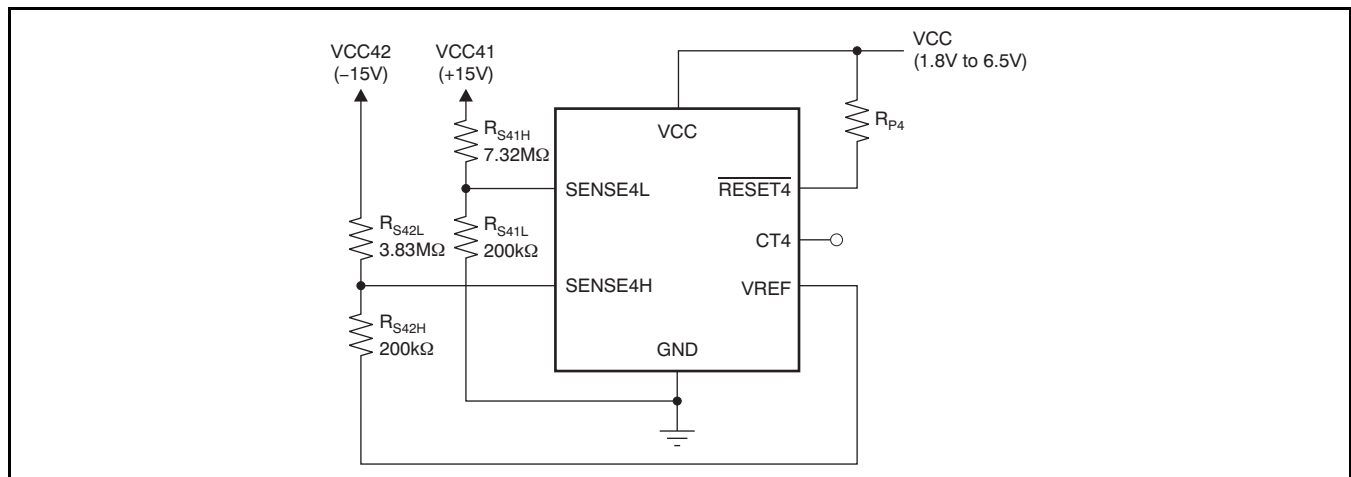

Figure 31. SVS4: Negative Voltage Sensing
voltage lower than 0.4V. Figure 31 shows this usage in an application circuit. SVS-4 monitors the positive and negative voltage power rail (for example, +15V and –15V supply to an op amp) and the RESET4 or RESET4 output status continues to be as described in Table 4. Note that R_{S42H} is located at higher voltage position than R_{S42L}. The threshold voltage calculations are shown in the following equations:
- Changed link in *Sensing Voltage Less Than 0.4V* section to new Figure 31 17
- Added Figure 31 17